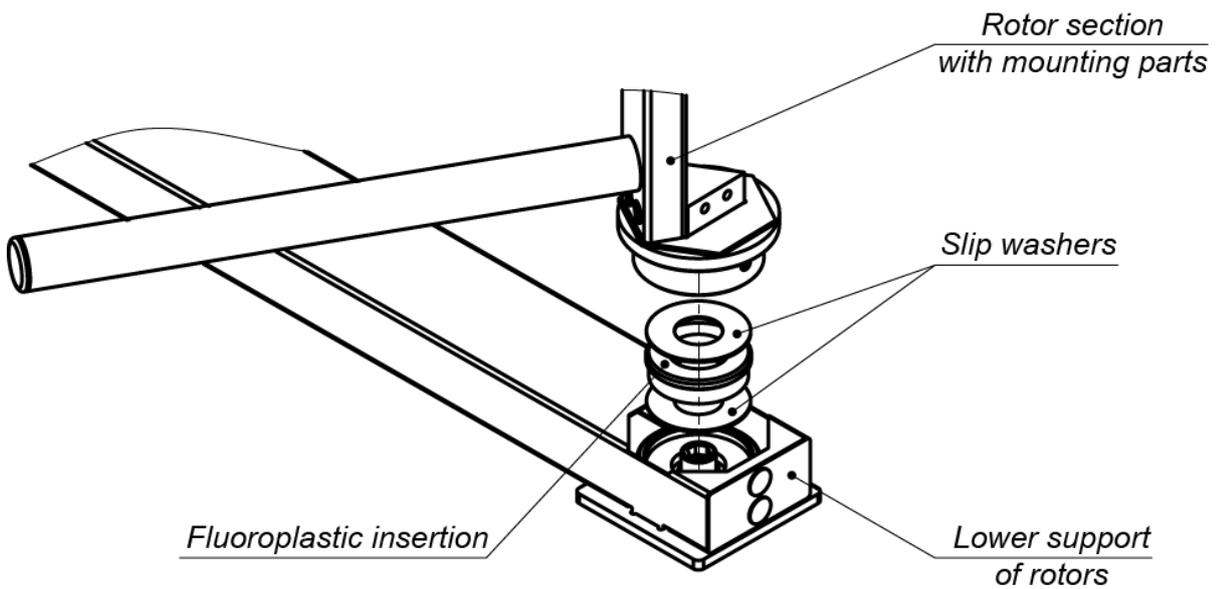

Figure 14. Bottom rotation unit
11. Assemble the bottom bearing rotation units (3) in the supporting flanges of the lower support (Fig. 14). Two slip washers and the fluoroplastic insertion placed between them must be situated in the assembly unit avoiding any misalignment and rest on the entire bearing surface symmetrically in respect to the rotor axis (the top thrust washer is glued to the rotor shaft). Herewith, the smooth surfaces of slip washers must be directed at the insertion. The slipping surfaces may be treated with molybdenum grease.
17. Mount the OD rotors (1) (Don't work alone!), each in the following order:
- Unpack rotor sections (1) (box №2 – rotor 1, box №3 – rotor 2).
- Use cylindrical shank to install the rotor section with mounting parts in the bottom rotation unit (3) (Fig. 14), first bring it into the unit at a slight angle to the surface, then turn it into the vertical position.